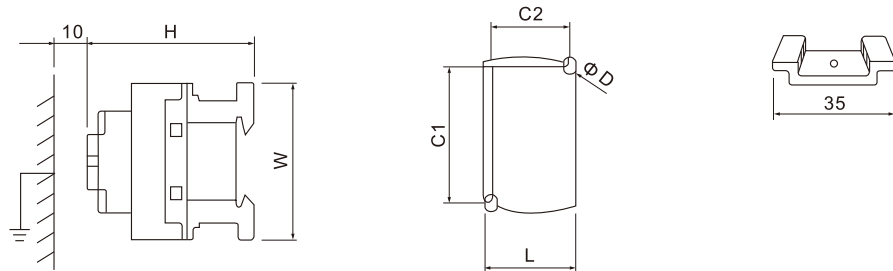

Fig 1 CJK2-D09~38
6.1 Overall dimensions and installation dimensions to see fig 1~6 and table 3~6